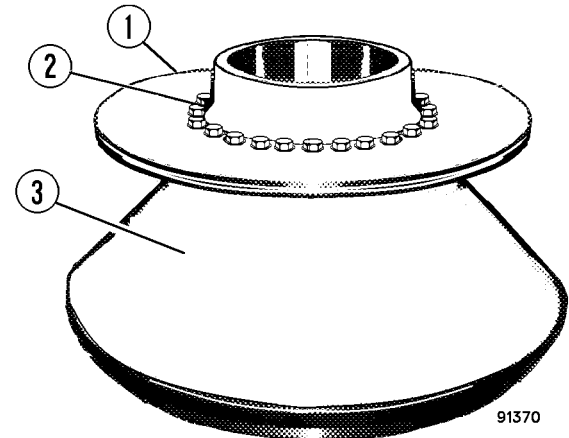

FIGURE 3-6. BRAKE DISC REMOVAL
8. Remove face seal, bearing cone (19), and spacer (18) from spindle.
9. If brake disc replacement is required, attach a lifting device to the brake disc (1, Figure 3-6), remove capscrews (2), and lift and brake disc from hub (3).